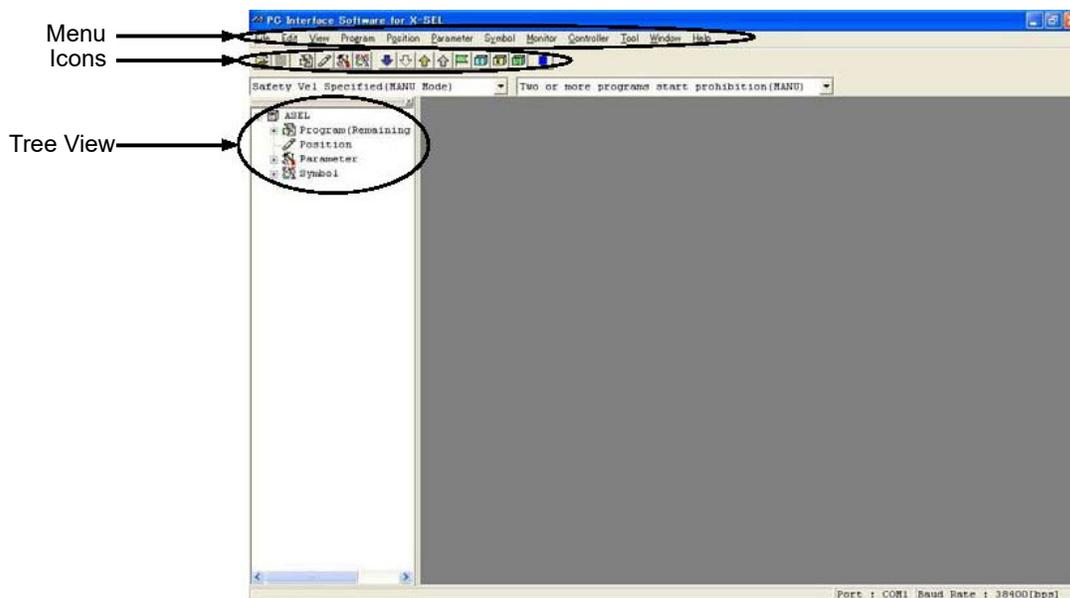

Fig. 3.7 Online Screen (ASEL Controller)
(7) ASEL controller
When this software has been started, the main window in Fig. 3.7 will open showing the menu items with icons on the tool bar in the case of the ASEL controller. The tree view appearing on the left side of the window can be displayed by clicking View (V) from the menu bar and then selecting Tree View (T). (Initial window: Main menu)